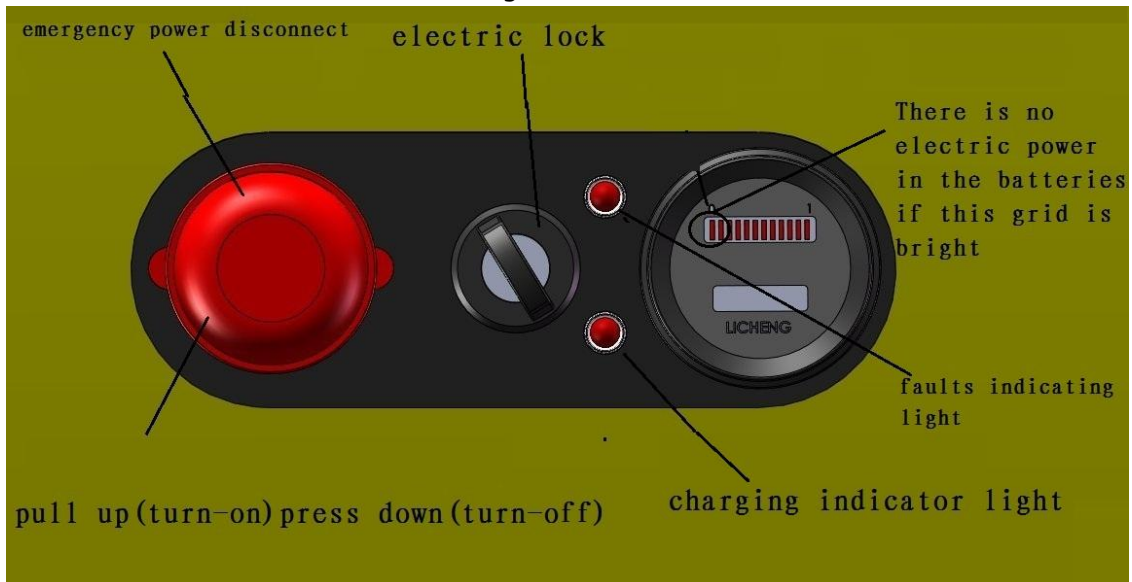

Fig.1
- 5.1.2 Check if there is any electric power in the batteries with the method indicated in Fig.1. Pull the general power switch out to turn on the general power supply, unlock the electric lock on the handle, check the electric energy meter on the instrument panel of the truck. If the zero end grid is bright, it indicates there is no electric power in the batteries and charging should be conducted at once. It is prohibited to operate the truck without electric power as that will greatly reduce the service life of the batteries and even damage the batteries.